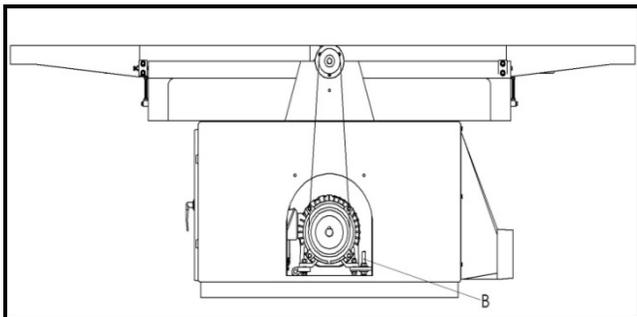

Fig. 3
Remove the three knurled nuts and the belt guard for accessing to the drive motor. Lower the motor mount plate on the adjustment screw for desired belt tension. Counter lock adjusting screws (B) See Fig. 3